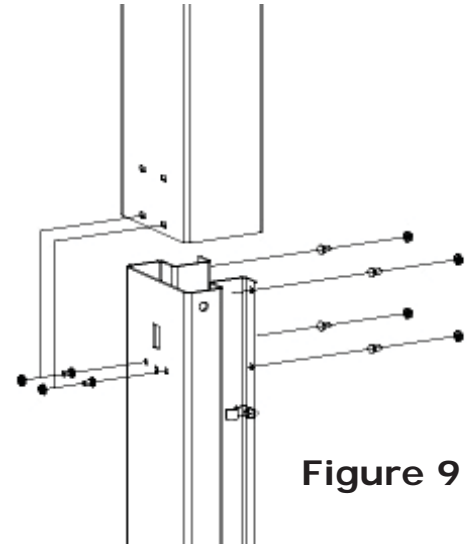

Figure 9
7.6 Installation Of Column Extension (Ref. Fig. 9)